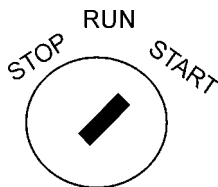

Figure 42. Ignition Switch (START)
6. Before starting the generator, press the preheat button (during cold conditions). Turn the key to the right to 'Start' (Figure 42). Once the engine starts, release the key.